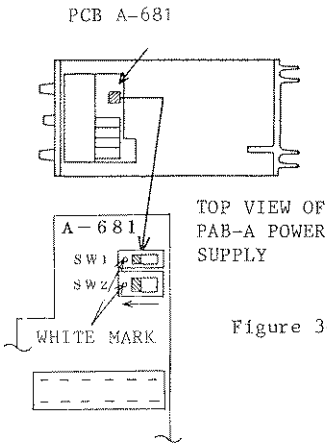

Figure 3-27
- (1) Disconnect the input power cord.
- (2) Remove the cover referring to Section 4-1-3.
- (3) Throw switches SW2 and SW3 on PC board A-681 to the white mark positions as shown in Figure 3-27. Install the cover.